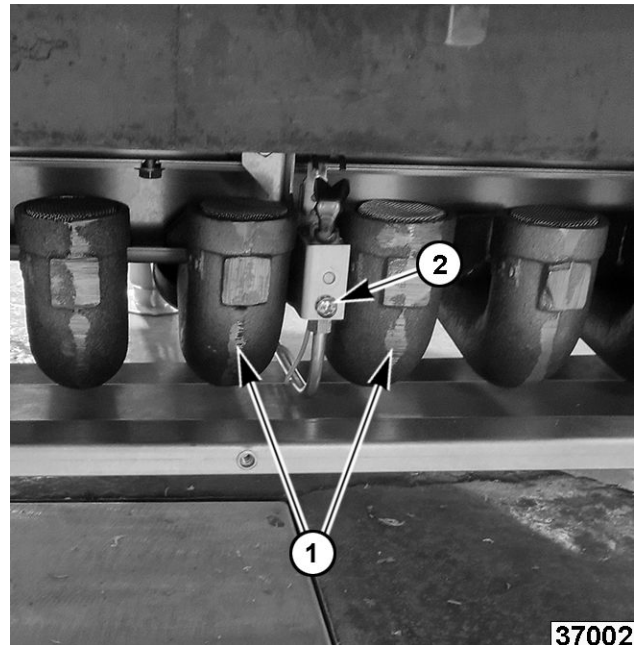

Fig. 2
1. Remove burners (1, Fig. 2) on each side of pilot that is being removed.
2. Remove pilot mounting screw (2, Fig. 2) and remove pilot.